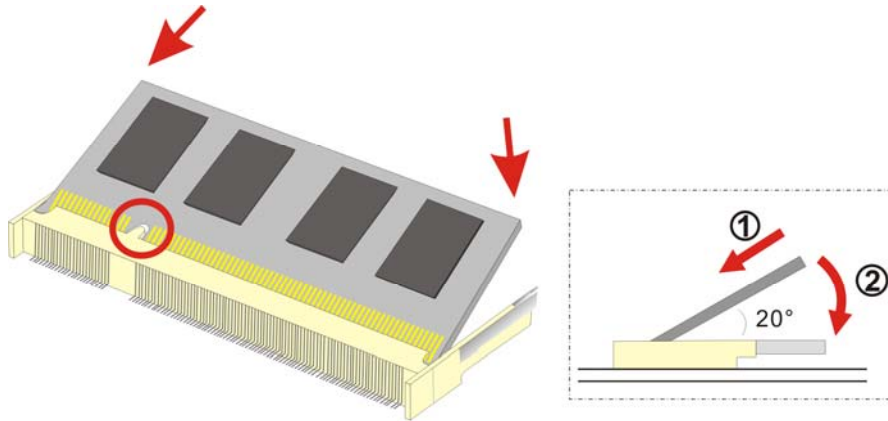

Figure 3-7: SO-DIMM Module Installation
(See **Figure 3-7**)
**Step 4:** Gently pull the arms of the SO-DIMM socket out and push the rear of the SO-DIMM module down. (See **Figure 3-7**)